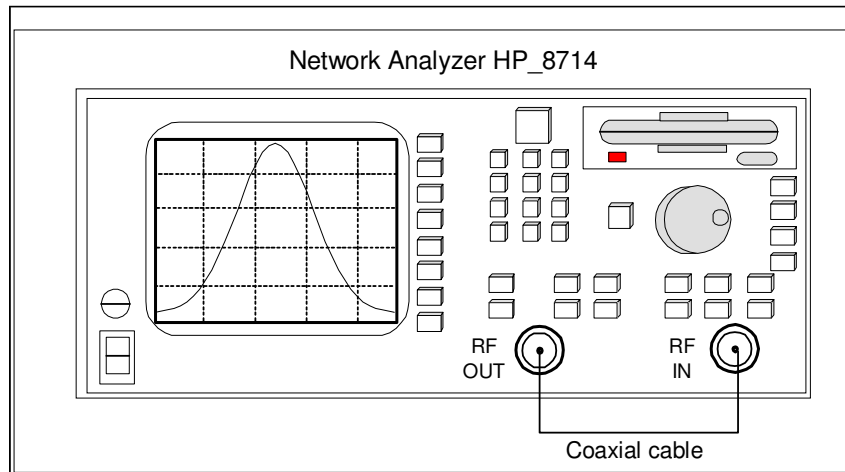

Figure 8 - Transmission measurement using a coaxial cable.
2. Connect a coaxial cable to the real network analyzer, as shown in Figure 8.
4. Connect a coaxial cable to the real network analyzer, as indicated in Figure 8.